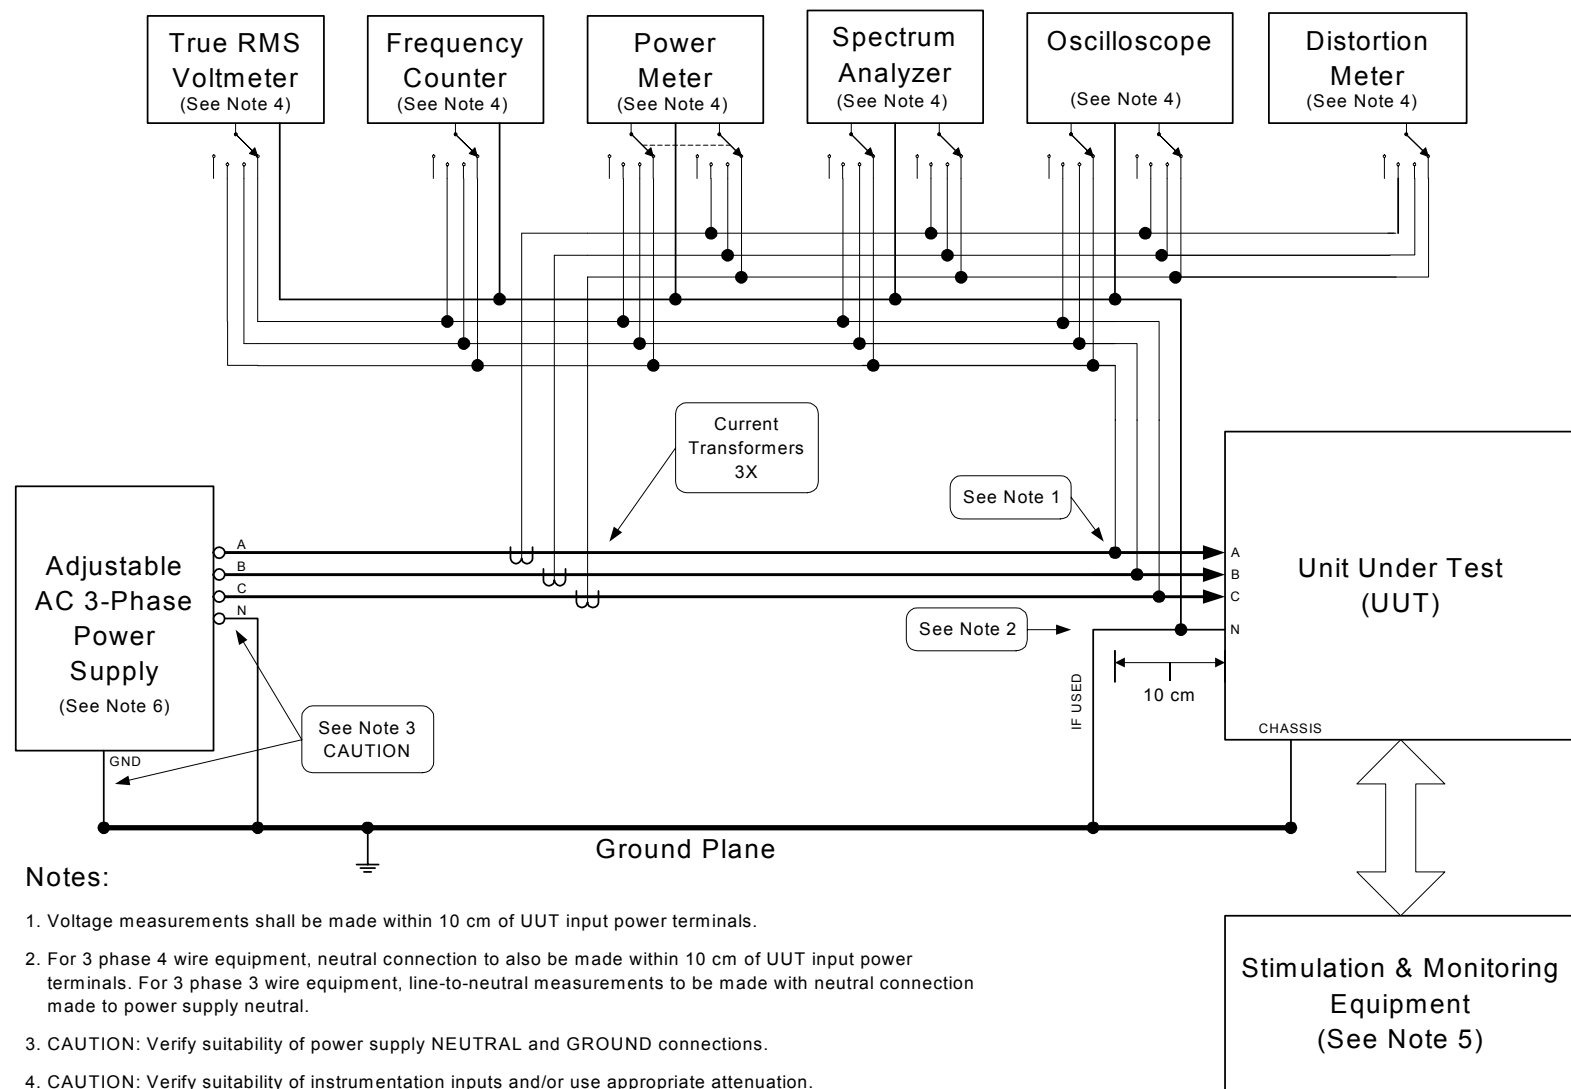

FIGURE TVF101-1. Load measurements.
4. Test setup. Configure the test setup as shown in figure TVF101-1. Measurements, except current, must be made within 10 cm of the input power terminals of the UUT. Current
5. Compliance test. With the power source off, install the UUT and the stimulation and monitoring equipment into the test setup of figure TVF101-1. Turn on the power source and adjust the voltage to the nominal steady state voltage of 115 Vrms (line-to-neutral) and adjust the frequency to a steady state frequency of 400 Hz.